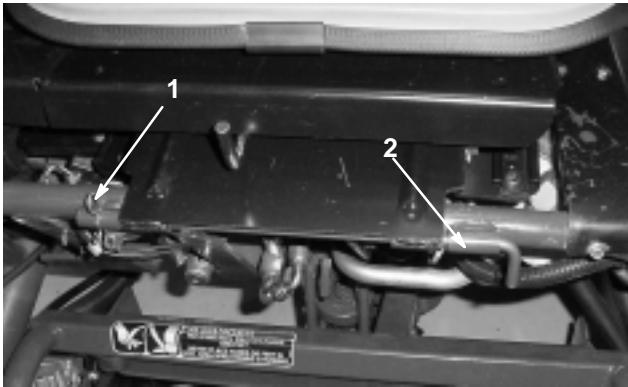

Figure 40
3. Lower the seat and remove the cotter pin securing the seat pivot rod to the frame (Fig. 40).